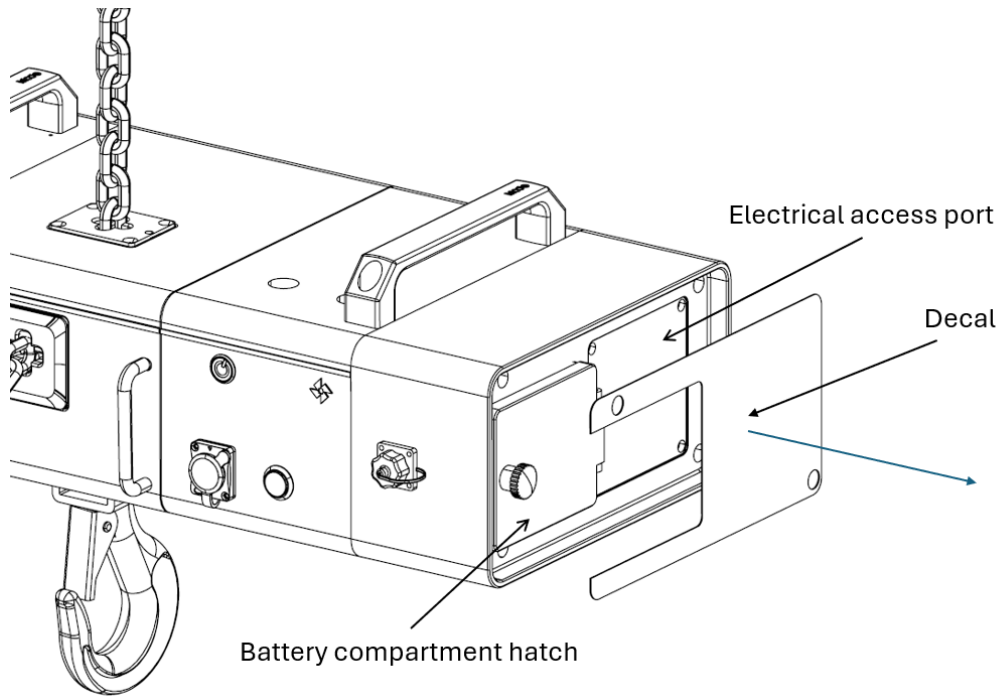

Figure 8 Peel the decal from the extended housing off
- 1) **Power Off & Prep:** Ensure the power is completely turned off and remove the battery pack. Peel off the reusable decal carefully on the side of the extended housing as shown in figure 8.